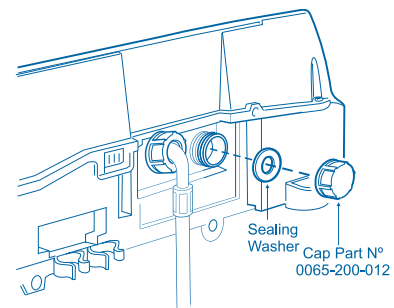

fig. 5
- If you only have a cold water tap, you must remove the inlet hose with the RED ends from the washing machine and fit a blank cap with a sealing washer to the HOT water inlet valve, otherwise water will leak out of the valve (see fig. 5).